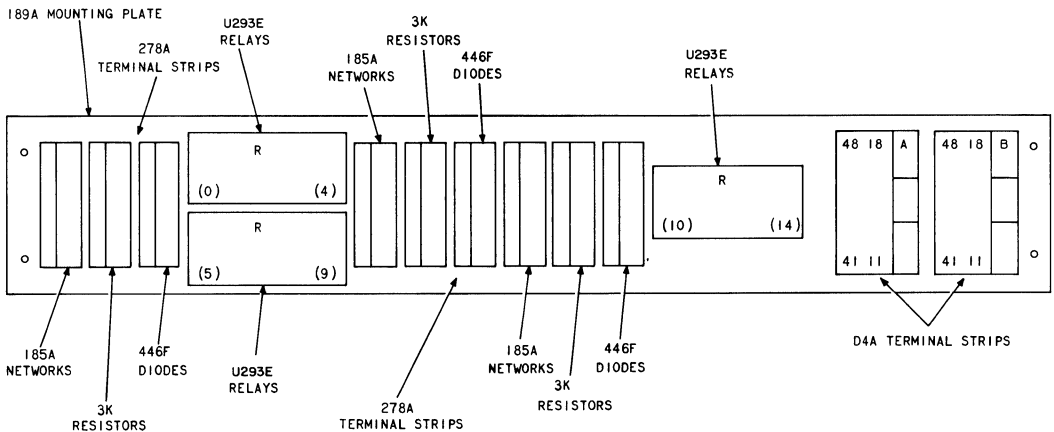

Fig. 1—J92614E-1 Interface Unit
6.01 Refer to Fig. 1 and 6 and Table A for connections for Connecting Arrangement CIY.